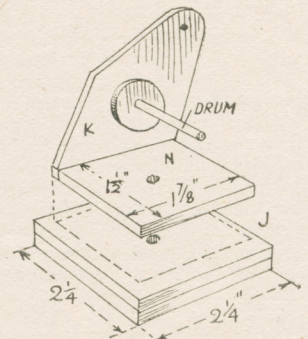

Fig. 6—Detail of drum holder
The platform or base, to carry the turntable, is made of two pieces of 3/16in. wood glued together, their sizes being as shown in the diagram, Fig. 6. A hole must be made centrally through these pieces to take either a short length of round rod to form the pivot for the turntable, or a long round-head screw for the same purpose. If a screw is used then the head should rest upon a thin metal washer on the top of piece (N).
In Fig. 6 the nearside (K) has been omitted on purpose to show the drum parts, etc.